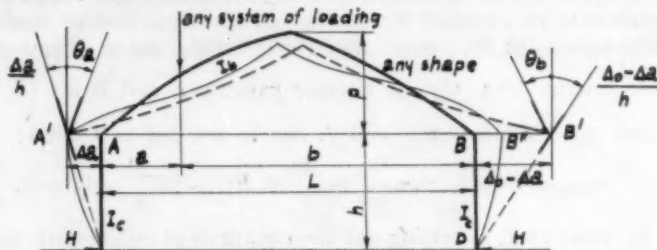

Fig. 19.
**General Case of Frame with Curved Member.**—In a general case of a frame with a curved member, of any shape and with any system of loading (Fig. 19), the angular gaps at A and B are  $\left(\theta_a + \frac{\Delta a}{h}\right)$  and  $\left(\theta_b + \frac{\Delta_o - \Delta a}{h}\right)$ , in which  $\Delta a$  represents the final horizontal translation of joint A; other symbols are as defined previously. It should be noted that point A' in Fig. 19 represents